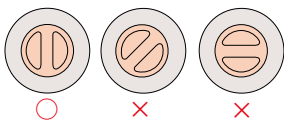

Fig.2
[Fig.2]
- To center the piping for JIS 10K flange, insert centering sleeves on the bolts and install the bolts to support the valve at the bottom and prevent it from falling through (only for 100, 125 and 150mm sizes). (Fig.2)
- For horizontal installation, have the rib of the Bata-Check aligned vertically. (Fig. 2)